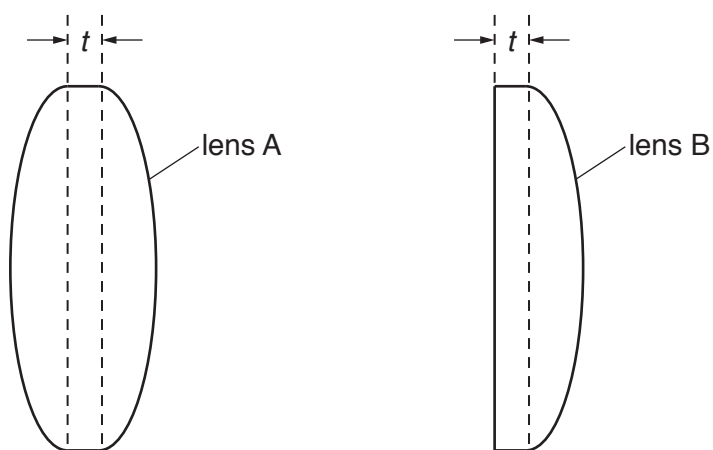

Fig. 1.1
- (a) The Supervisor has provided you with either a lens A, that has two curved surfaces, or a lens B, that has one flat and one curved surface. Both lenses are shown in Fig. 1.1.